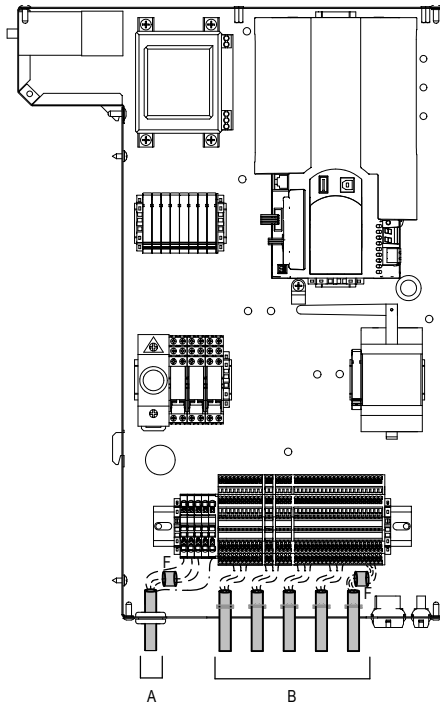

Figure 8.1: electrical panel sizes 07V, 09V, 11V and 15V (F = ferrite).
The figures above (Figures 8.1, 8.2, 8.3 and 8.4) show an example of ferrite core installation on the power cord (A) and remote control cables (B).